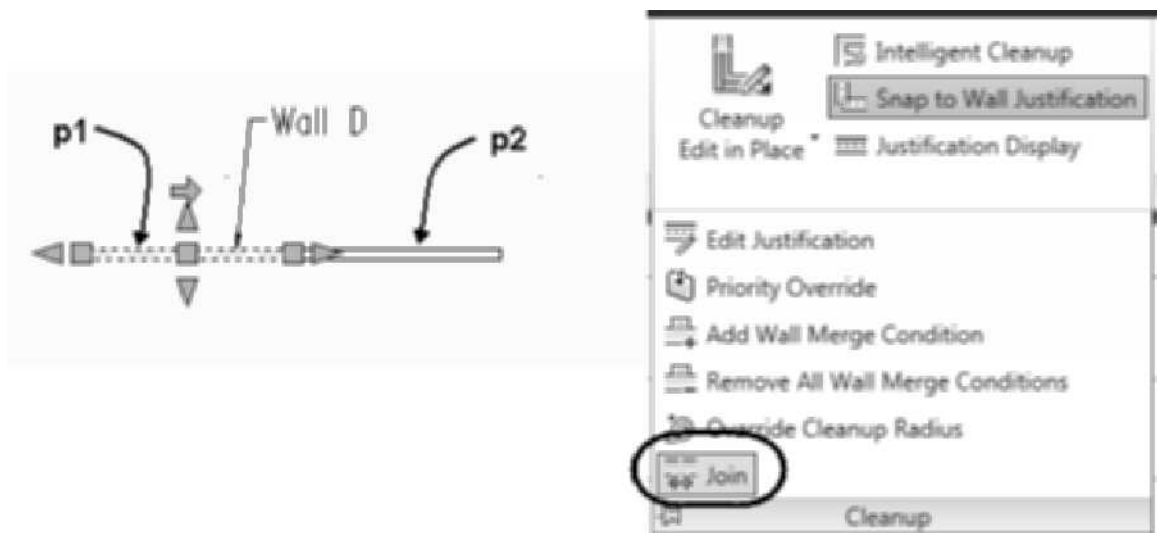

FIGURE 2.38 Wall segment selected for Join operation
14. Select **Wall D** at p1, as shown in Figure 2.38, and choose **Join** from Cleanup slide out panel of the Wall tab. Respond to the workspace prompts as shown below:
Select second wall: (Select adjoining wall segment at p2 in Figure 2.38.)